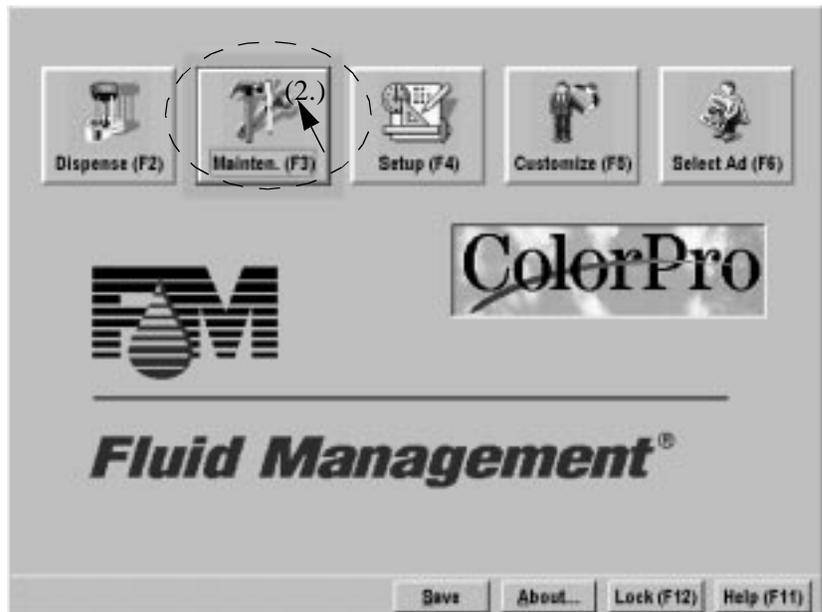

Figure 5. Selecting Maintains Screen
2. Press “F3” or using the touch mouse, click once on the “Maintenance” icon, as shown in Figure 5.